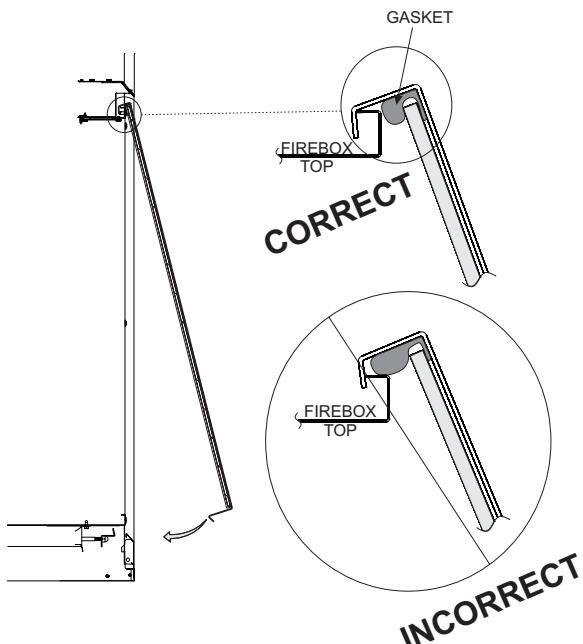

Figure 34
1. When installing the Glass Door assembly, make sure that the door top flange is hooked over the firebox top flange as illustrated in the "Correct" view in **Figure 34**.
**Important: Do not allow the gasket across the top of the door to roll up on top of the firebox flange as shown in "Incorrect" view in Figure 34.**